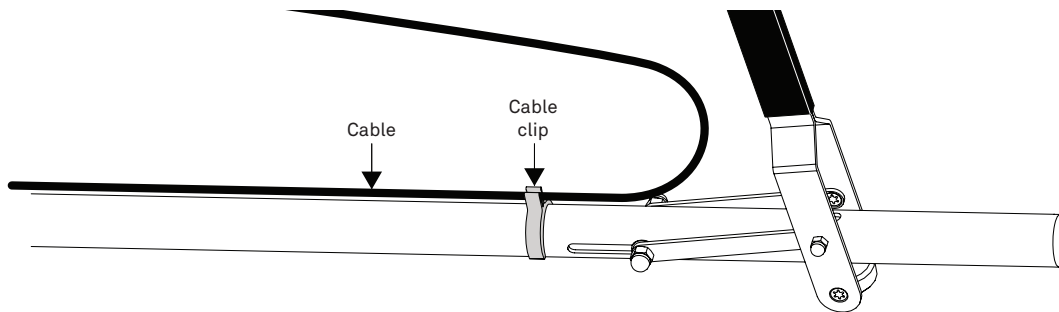

Figure 26 Cable clip on handle
4. Press the sensor cable into the cable clip mounted on the handle rod right below the handle lever (Figure 26).